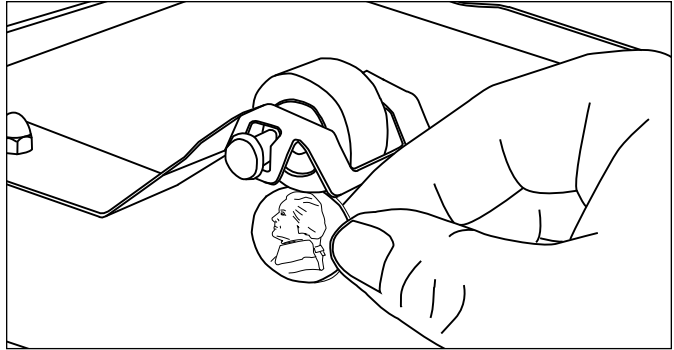

Figure 10. Measuring the Roller Tensioner
1. Measure the Roller Tensioner on both inner Conveyor Covers (Figure 10) using a U.S. Nickel.